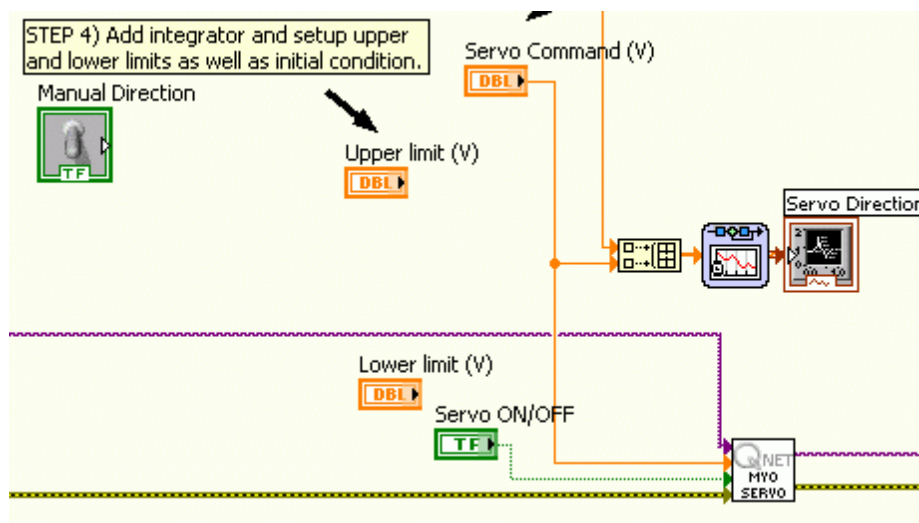

Figure 4.8: Add an integrator
- Go to the block diagram section shown in Figure 4.8. Add an integrator and connect the signal from 7 into its input. Make sure to setup the lower and upper saturation limits of the integrator with the *Upper limit (V)* and *Lower limit (V)* controls. The initial condition should also be wired to the *Lower limit (V)*. Attach an image of your block diagram.